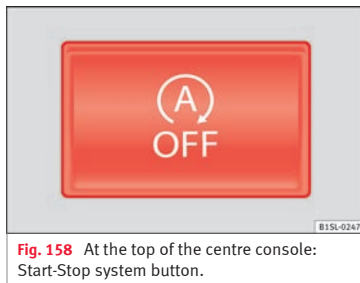

Fig. 158 At the top of the centre console: Start-Stop system button.
- Press the button  situated in the centre console » **Fig. 158**.